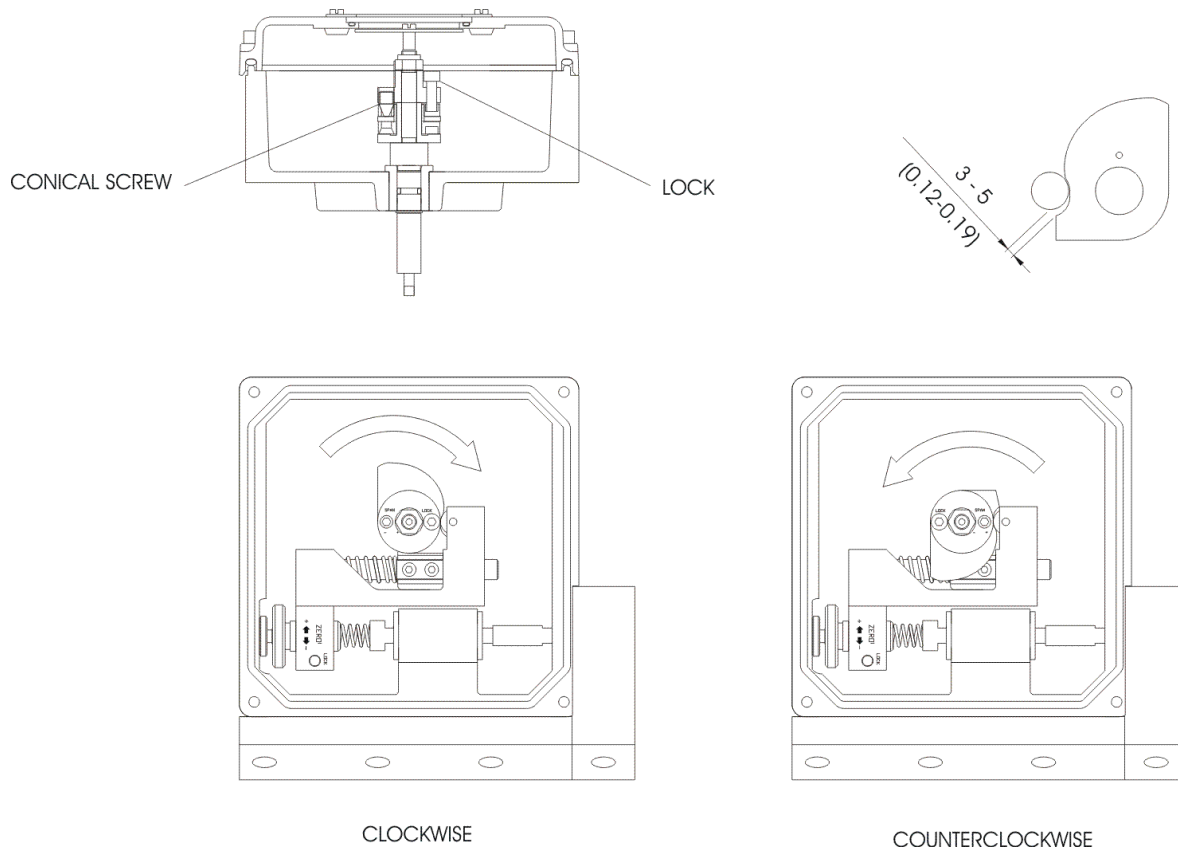

Figure 3-1. Cam Adjustment
Figure 3-1 shows cam adjustment.
1. Place cam assembly according desired cam rotation – clockwise or counter-clockwise, see Figure 3.1. Cam is pre-set from factory for counter-clockwise (direct acting)
A gap of 3-5 mm from the stopper is enough, see Figure 3.1.